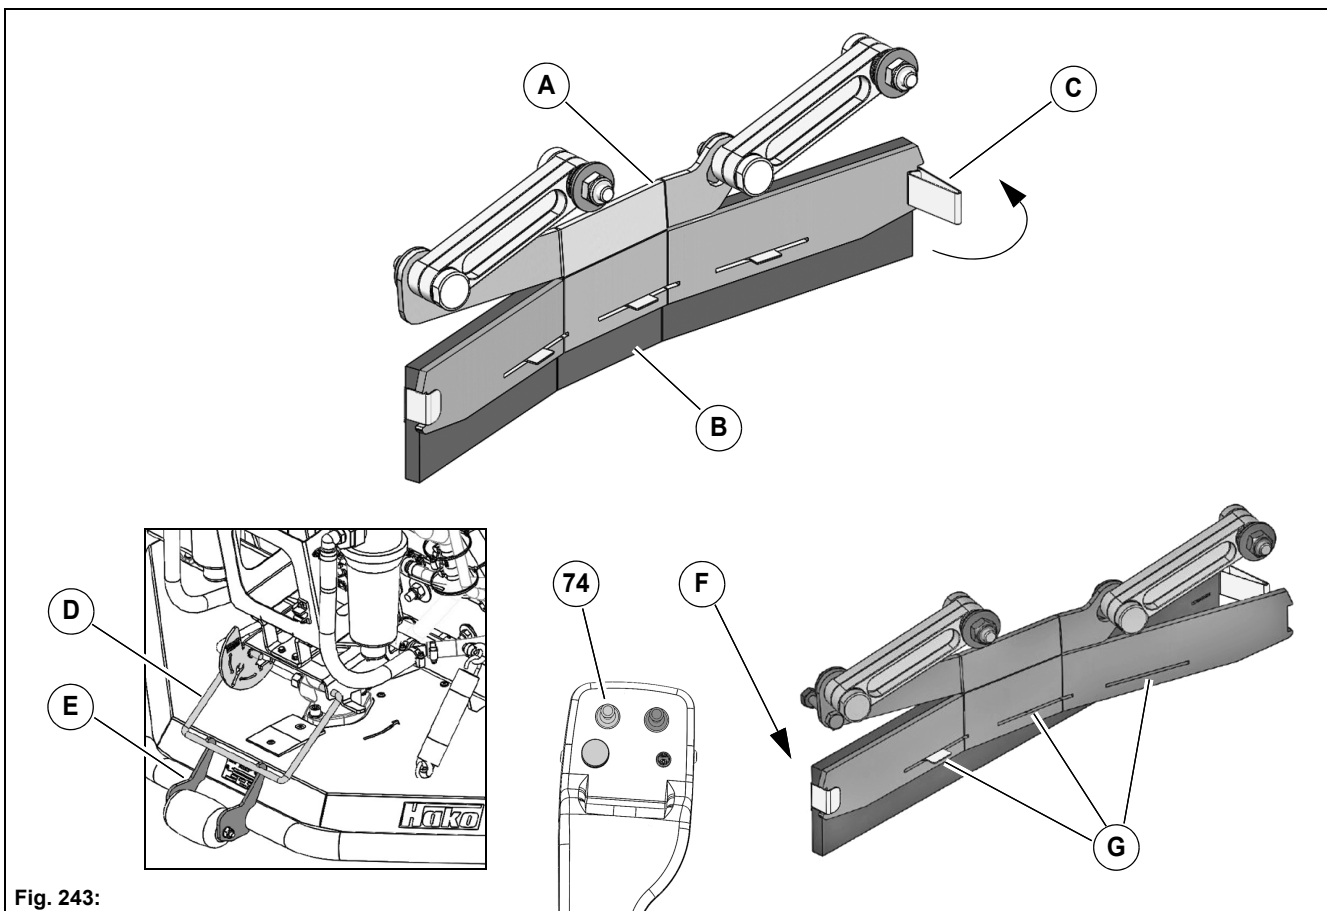

Fig. 243:
Check the lateral deflectors **Fig. 243-A** of the scrubbing deck daily. Turn or replace worn sealing strips **Fig. 243-B**. The sealing strips **Fig. 243-B** and mounting clamps **Fig. 243-C** can be removed without tools.
2. The sealing strip can be removed with the mounting clamps by laterally pulling on the clamp **Fig. 243-C** of the mounting clamps.
4. Insert the sealing strip and the mounting clamps on one side **Fig. 243-F** of the holder. The guide lugs slide into the slots **Fig. 243-G**. This ensures the correct height position.